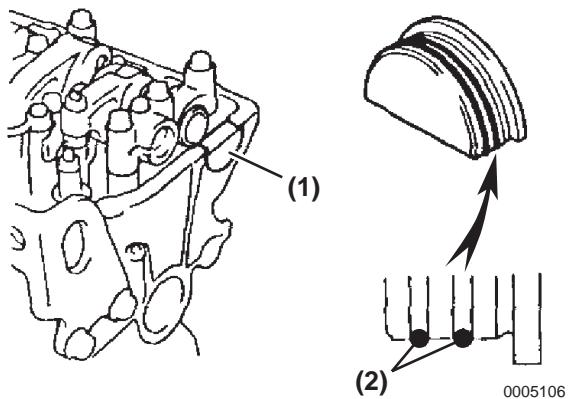

Figure 5-76
2. Apply seal packing (**Figure 5-76, (2)**) to the semi-circular plug (**Figure 5-76, (1)**). (Seal packing: TOYOTA P/N 08826-00080 or equivalent)